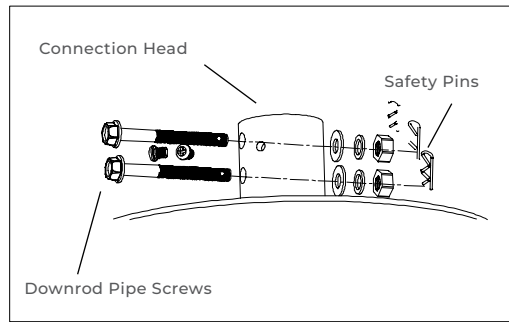

FIGURE 2
**A)** First remove the safety pins on the connection head, and then remove the two fixed downrod pipe screws located in the connection head on top of the motor body. (See Figure 2);